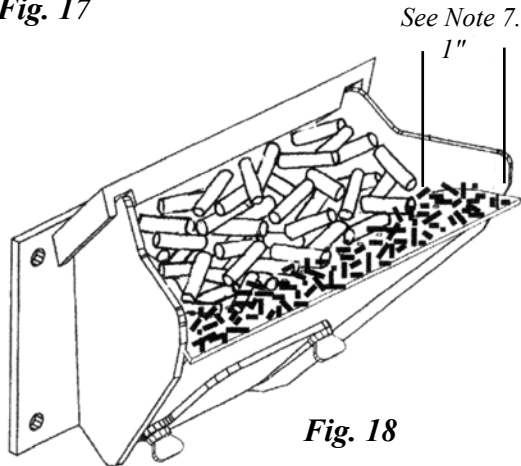

Fig. 18
7. Setting the feed adjuster # for maximum burn: With the unit burning in "AUTO", turn to "Stove Mode" and put the fan on "H". Set the Temperature Dial to #7. Allow the unit to burn for about 30 minutes and check ash on front of burn pot. Fig. 18. If the ash line is larger than 1", turn the feed adjuster from #3 to #4. Allow another 30 minutes of burn time and check again. If, at #6 setting, a 1" or less ash bed is not obtainable, it is not a problem. The 1" ash bed is only a maximum burn rate and at most normal settings the ash bed will be larger.